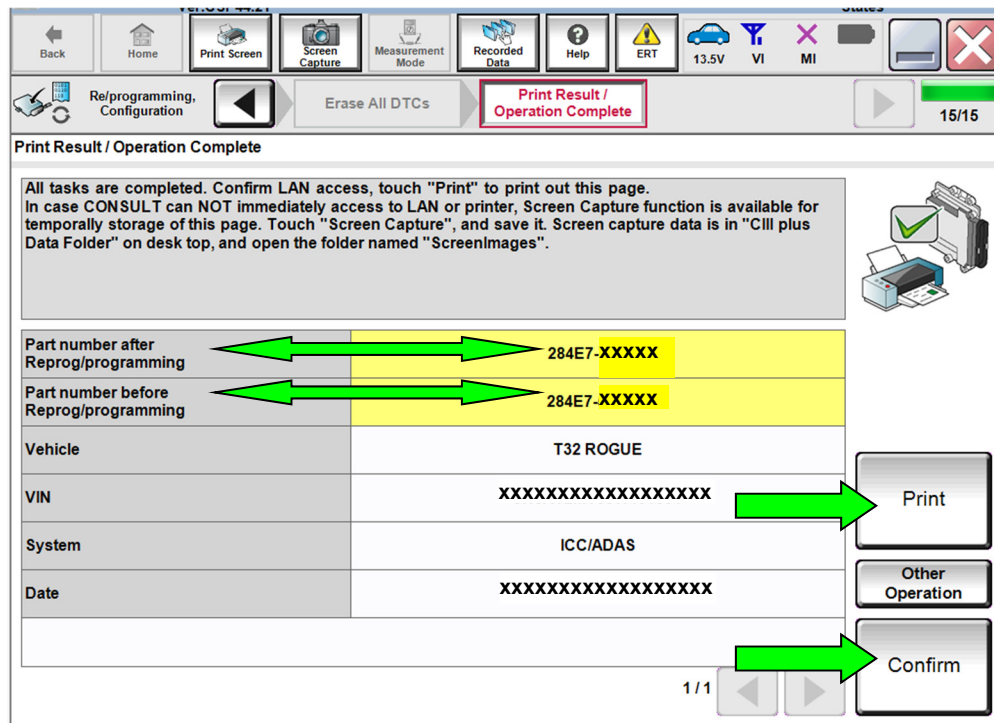

Figure 32
50. When the entire reprogramming process is complete, the screen in Figure 32 will display.
52. Print a copy of the screen below (Figure 32) and attach it to the repair order for warranty documentation.